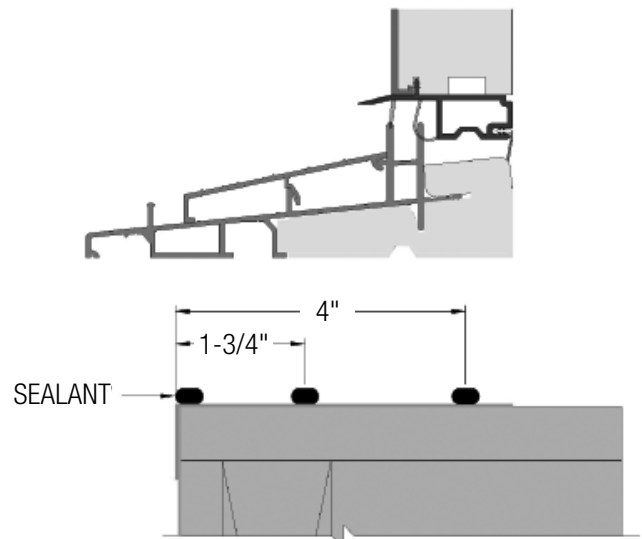

**FIG. 8**
- D) Apply sealant to the head and side nailing fin. Apply a 1/4" continuous bead of silicone in line with and completely covering the nailing flange holes. (Fig. 8)